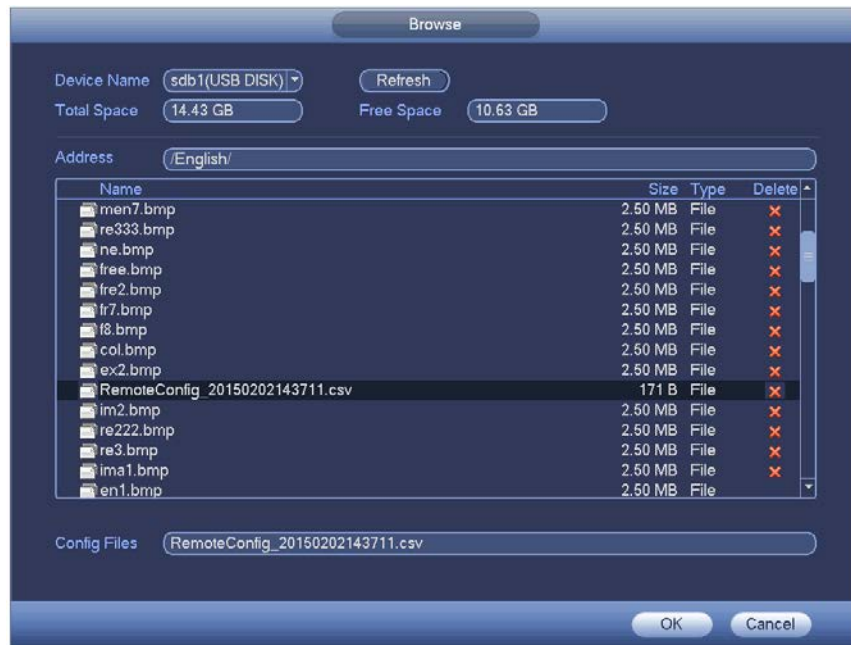

Figure 4-32
- After set schedule record and schedule snapshot function, please enable auto record and auto snapshot function so that the device can automatically record and snapshot. System supports main stream and sub stream. There are three statuses: schedule/manual/stop. See Figure 4-32. Please highlight icon“o” to select corresponding channel.